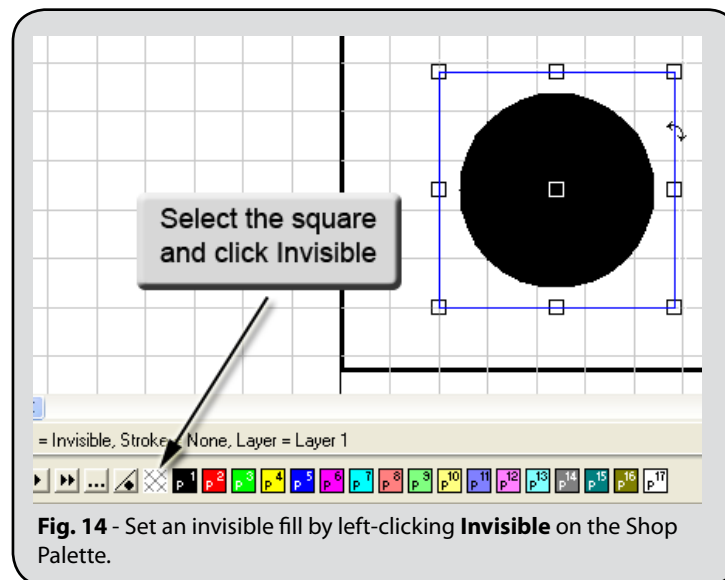

Fig. 14 - Set an invisible fill by left-clicking **Invisible** on the Shop Palette.
4. Draw a square shape around the circle and assign an **Invisible** fill to the square (Fig. 14).